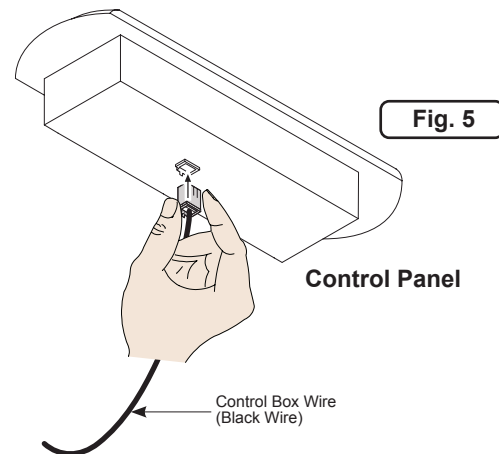

Fig. 5
1. Insert the wire connector into the back of the control panel (Figure 5).